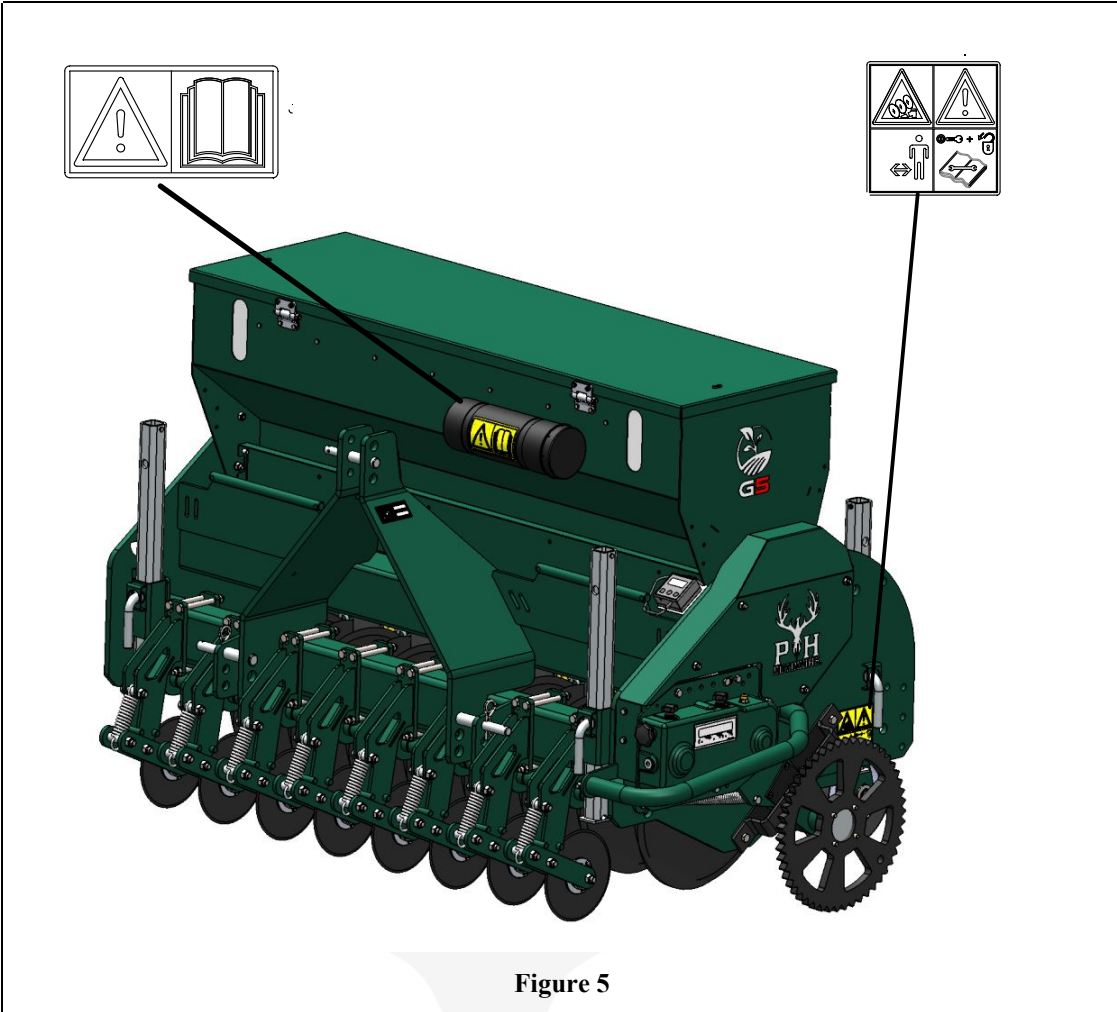

Figure 5
(7) Location of safety decals (Figure 5)